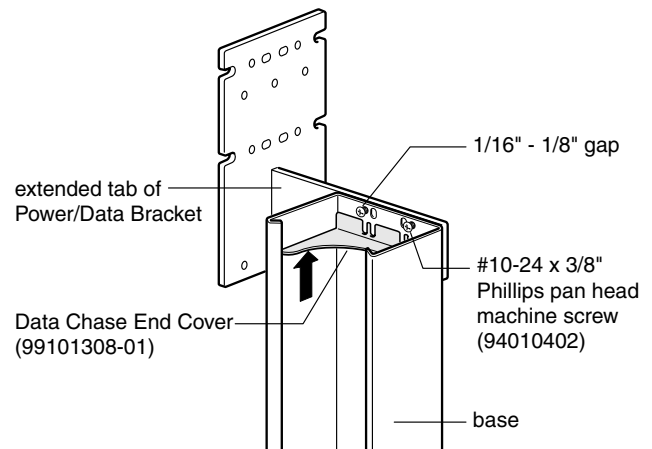

Figure 2
2. Align the four slots in the base with the four tapped holes in the extended tab of the upper Power/Data Bracket. (Figure 2)
3. Install two of the #10-24x3/8" Phillips pan head machine screws in either the two outer or two inner tapped holes. Leave a 1/16" - 1/8" gap between the head of the screw and the back of the base. (Figure 2)
4. Insert the Data Chase End Cover into the base inboard from the screws with the notches pointing out of the base on each side. Slide end cover under screws and tighten screws. (Figure 2)